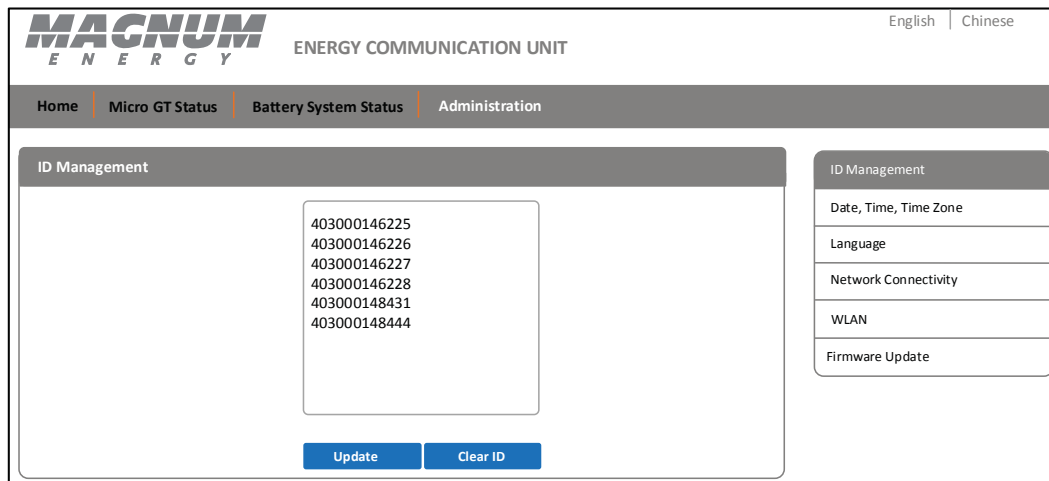

Figure 26, ID Management Screen
1. Select the *Administration* tab at the top of the MagWeb GT's Home screen. The ID Management screen displays (Figure 26).